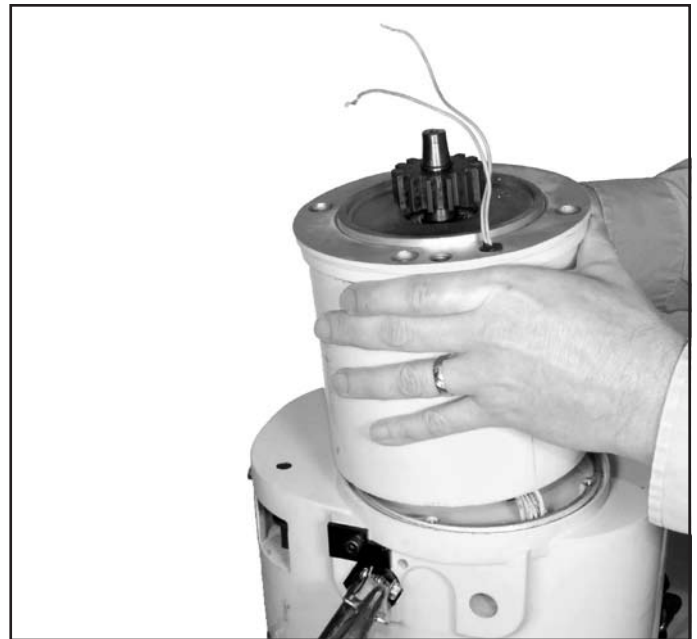

Figure 7-9. Removing Motor Assembly
(1) Place hoist frame on wood blocks to protect intergal gear on motor shaft. Loosen four motor mounting bolts and lift motor assembly from frame (fig. 7-9). Guide motor leads through wire passage to avoid damage.